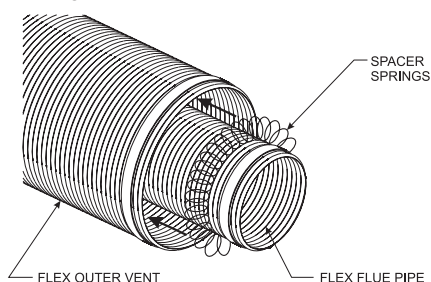
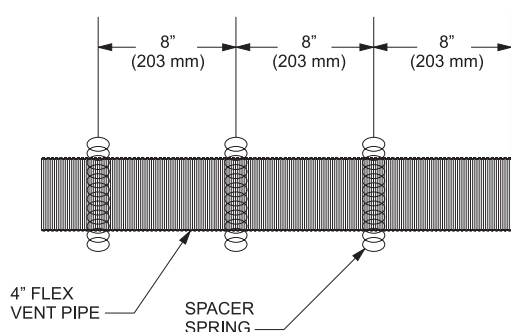

Figure 64
Figure 65
2. Check to see that the vent spacer springs are located around the flue vent at 8" and 12" intervals along its length. **See Figure 64.** If not, stretch the spacer springs to about 15" long and wrap them around the flue, then interlock the ends of each spring about 2". **See Figure 65.** Maintain equal distance between spring spacers.